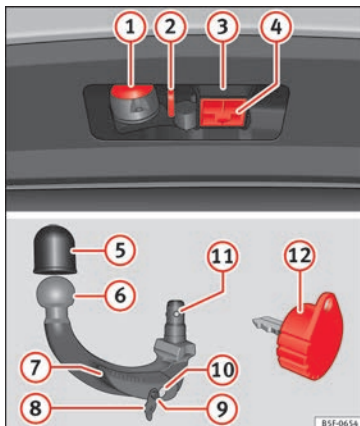

Fig. 225 Towing bracket device support / detachable ball joint / key
Key to » Fig. 225
- Remove the hook housing cap **(4)** » **Fig. 225** downwards.